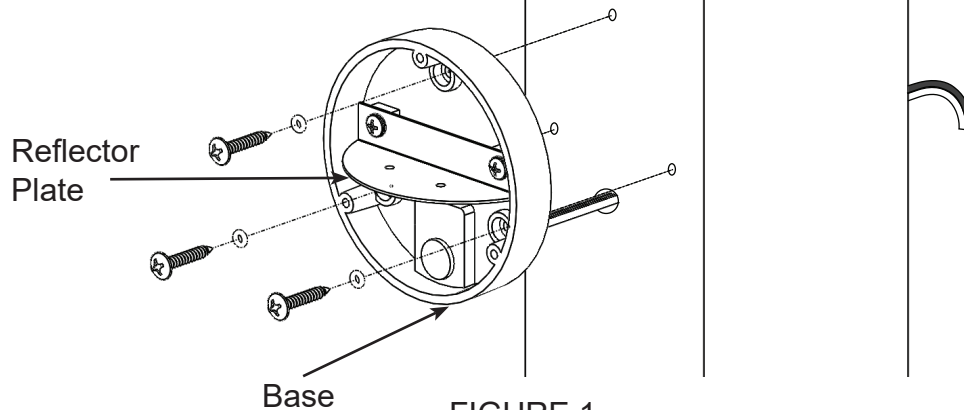

FIGURE 1
2. Position light base ensuring LEDs are pointing down and reflector plate is level. Secure light base to mounting surface using M4 x 25mm screws with "O" rings and anchors if required (Fig. 1).